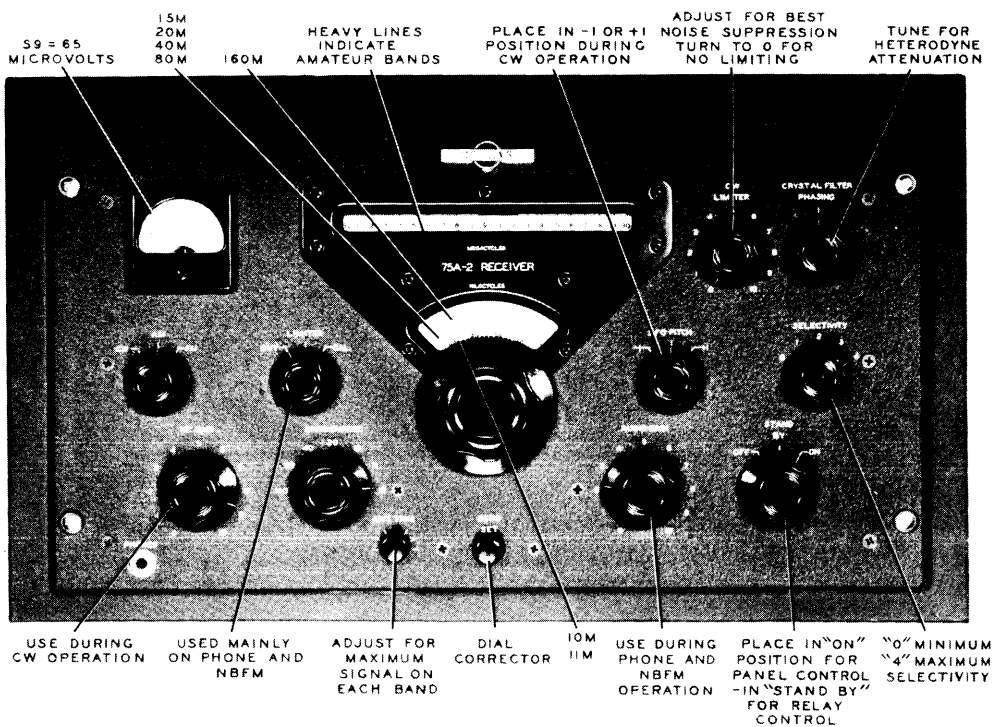

Figure 3-1 75A-2 Operating Controls
d. MEGACYCLE - The MEGACYCLE dial is a slide rule dial calibrated in divisions of 100 kc each. Each scale is colored to match the associated scale on the KILOCYCLE dial. To read the tuning dial, combine the vernier dial (KILOCYCLE) reading with the slide rule dial reading. Thus, the 10 meter dial reading in figure 3-1 would be 2883 $\frac{1}{2}$ kc. The KILOCYCLE dial supplies the last two figures of the frequency in kilocycles on all bands and the MEGACYCLE scale supplies the first two figures of the frequency in kilocycles in the 160, 80 and 40 meter bands and the first three figures in the 20, 15, 11 and 10 meter bands.